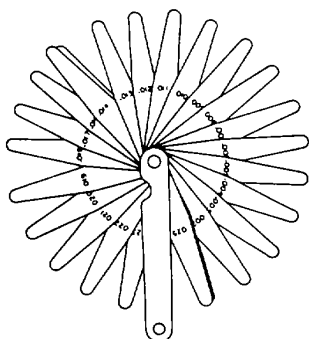

Figure 3-70. Thickness Gauge
(3) When snap gauges are stored, arrange them neatly in a drawer or case so that they do not contact other tools or each other.
(4) Always hold the gauges in your hands when checking. Never clamp them in a vise.
(5) At frequent intervals, check all gauges for accuracy and wear with gauge blocks or master gauges.
**3-17. Thickness Gauge.** The thickness gauge consists of thin leaves, each ground to a definite thickness which is marked on the leaf. The leaves are usually in sets, with one end of each leaf fastened in a case. Figure 3-70 shows a typical thickness gauge.